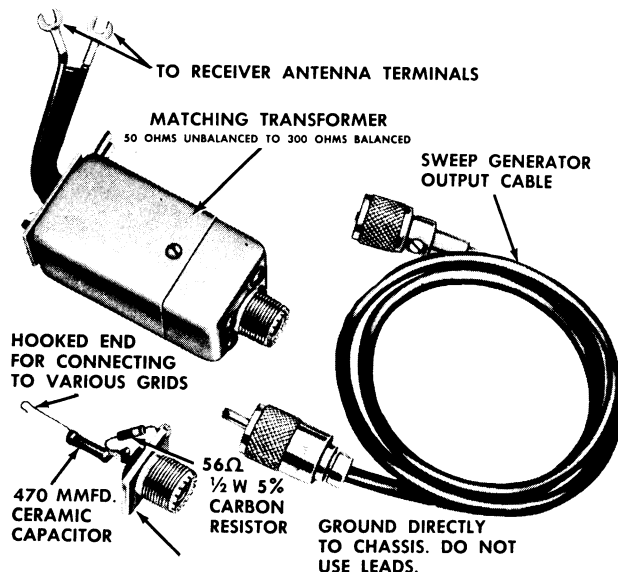
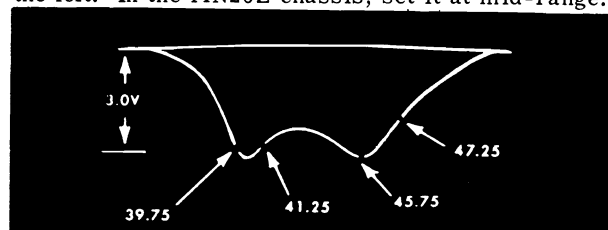
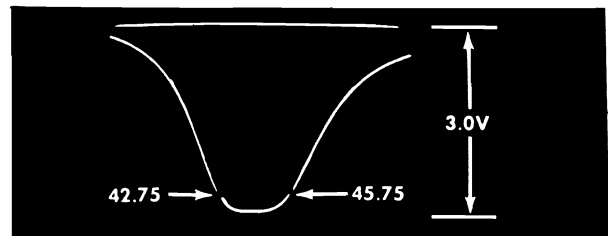

Fig. 1 Alignment Fixtures for RF-IF Alignment.
Fig. 2. 4th IF Response
Fig. 6 4th IF Response Curve.
3. Feed the sweep generator through a special terminating network as shown in Fig. 1. to Point "G" (Grid of the 3rd IF). Adjust generator to obtain a response similar to Fig. 2. with a detector output of 3 volts peak to peak. Do not exceed this level during any of the adjustments.
4. Set the marker generator to 45.75 Mc and alternately adjust the top and bottom cores of the 4th IF for maximum gain and symmetry with the 45.75 Mc marker positioned as shown in Fig. 2. The two peaks must be equal in height and the high frequency peak at 45.75 Mc. If the correct response cannot be obtained, check the position of the cores to see that they are not butted. The cores should be entering their respective windings from the opposite ends of the coils.
3. Feed the sweep generator through a special terminating network as shown in Fig. 1. to Point "G" (Pin 1 of the 3rd IF). Adjust generator to obtain a response similar to Fig. 6. Do not exceed the 3 volt peak to peak detector output during any of the following adjustments.
4. Set the marker generator to 45.75 Mc and alternately adjust the top and bottom cores of the 4th IF for maximum gain and symmetry with the 45.75 Mc and the 42.75 Mc markers positioned as shown in Fig. 6. If the correct response cannot be obtained, check the cores to see that they are not butted but are entering their respective windings from the opposite sides of the coil.